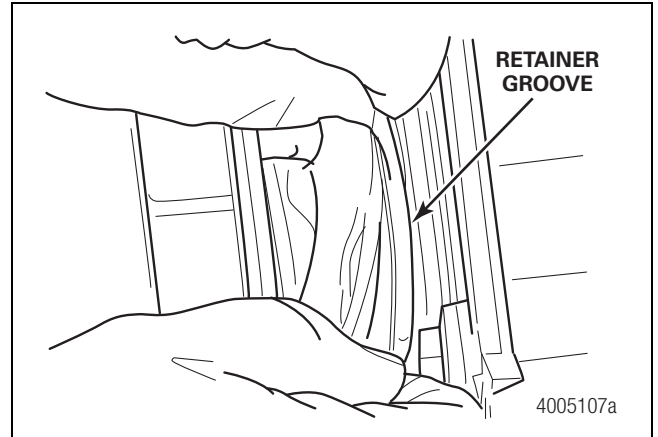

Figure 6.17
10. Use two fingers to stretch the piston boot and pull it over the housing assembly retainer groove. Figure 6.17.